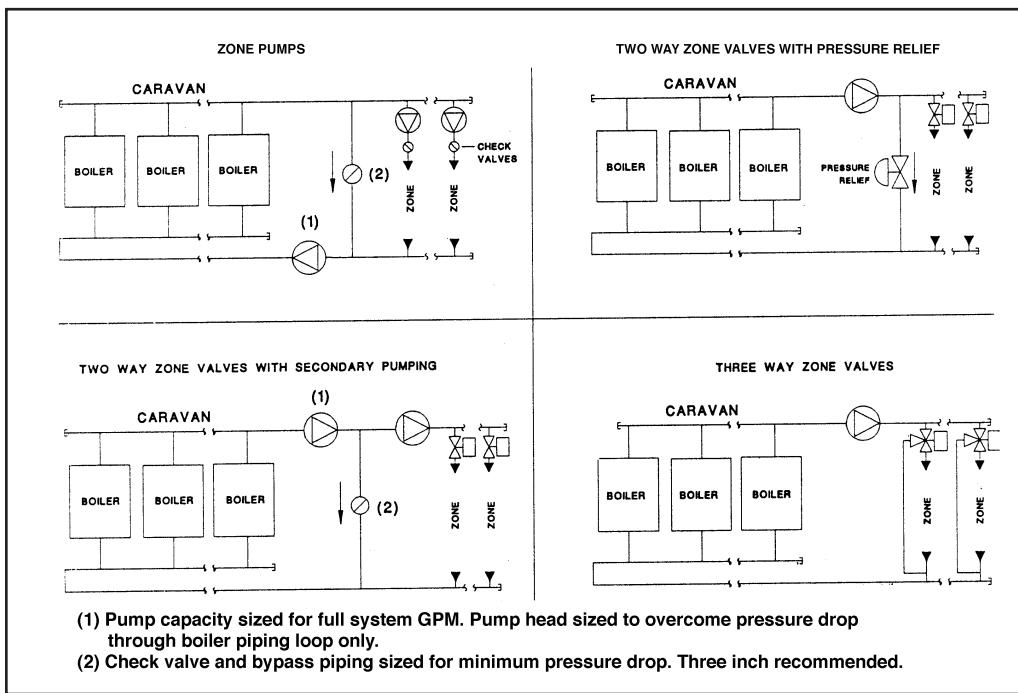

**Figure 4. Primary/Secondary piping of modular boiler.**
1. Primary/secondary piping may be applied to a Caravan modular boiler system as demonstrated on Figure 4. In this type of application the modular boiler is contained within the primary loop. However, this is still a modular boiler, if it has no valves between the modules.